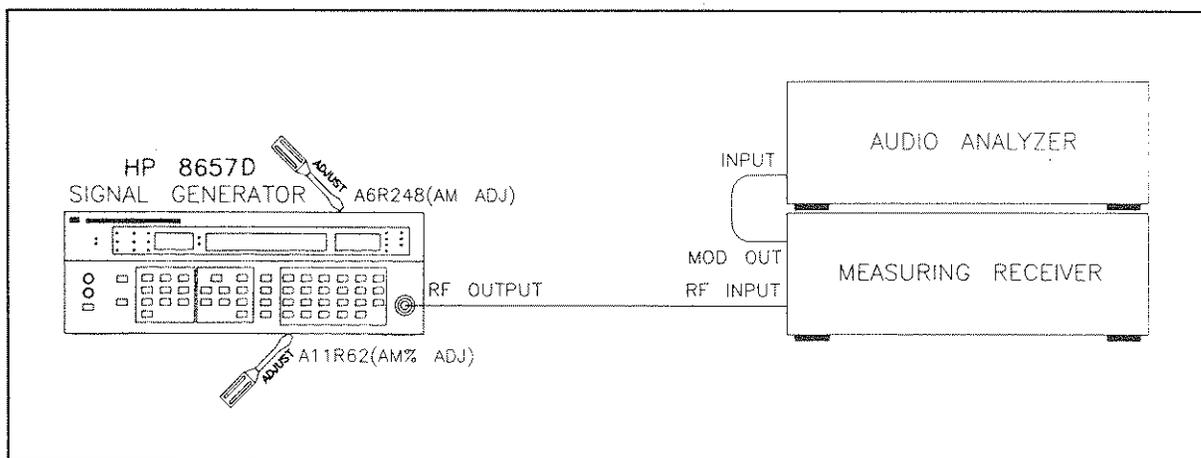

Figure 5-13. AM% and ALC Loop AM Adjustments Setup
3. Connect the measuring receiver to the RF OUTPUT connector on the HP8657D and connect the audio analyzer as shown in Figure 5-13.